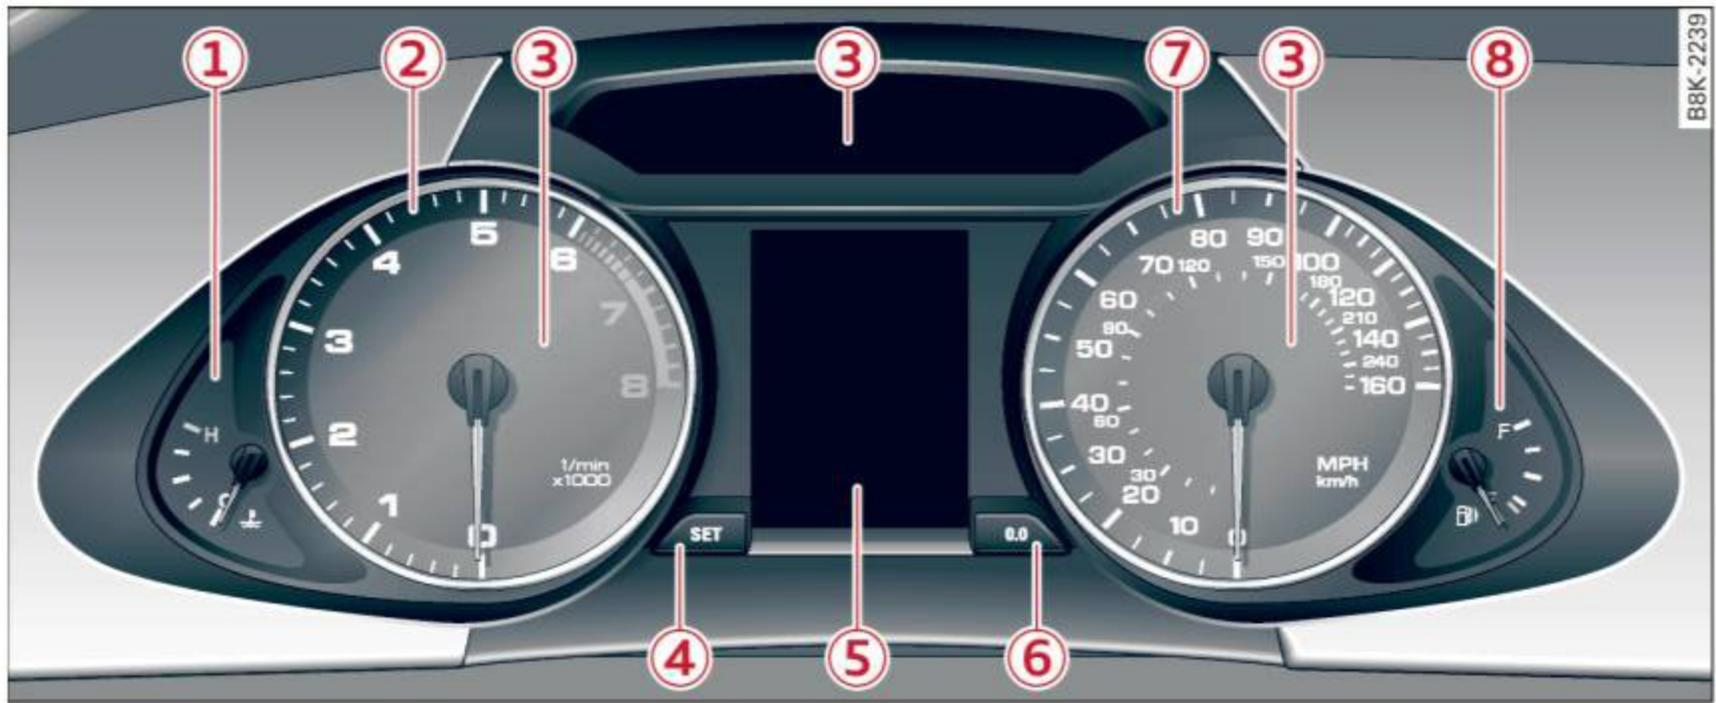

Fig. 3 Overview of the instrument cluster
The engine coolant gauge ⇨ *page 10, fig. 3 ①* only works when the ignition is on. To prevent damage to your engine, please note the following important points:
The tachometer needle ② ⇒ *page 10, fig. 3* should only briefly be in the red zone: you could damage your engine! The beginning of the red zone varies depending on the engine.